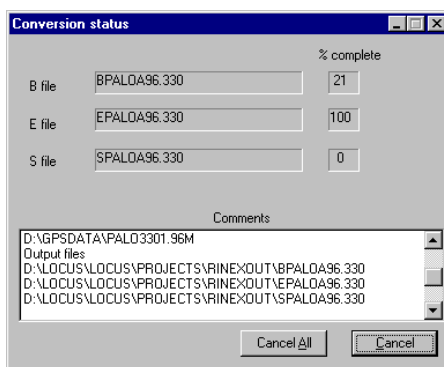

Figure 7.6: Conversion Status Dialog Box
6. Click **BEGIN** to convert the selected RINEX files to Ashtech format. The **Conversion status** dialog box opens (Figure 7.6).